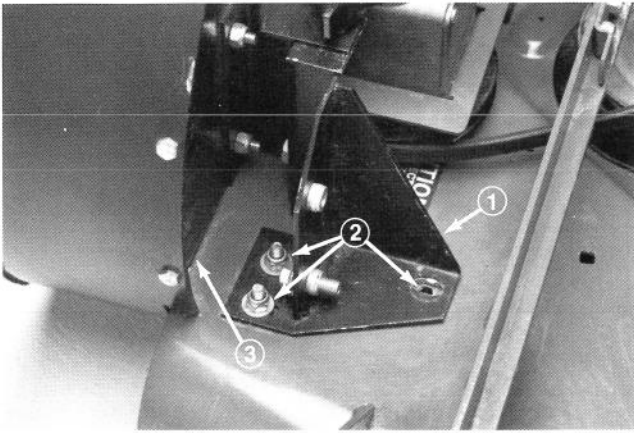

Figure 5
6. Position blower assembly onto cutting unit. Align front bracket with (3) mounting holes in deck and rear bracket with rear most deflector hole (Fig. 5 & 6). Make sure blower is flush with deck opening.